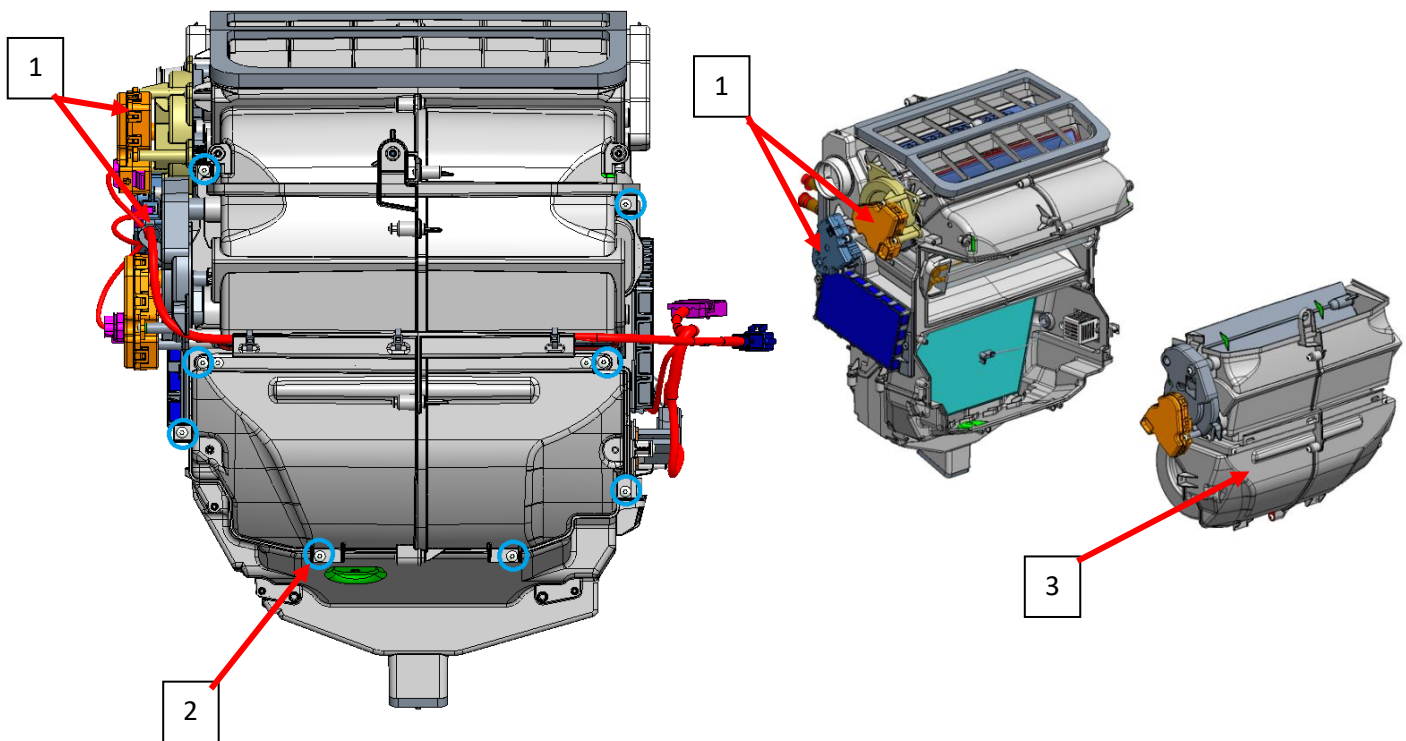

Figure 16: HVAC Unit with Separated Blower Scroll Housing
2. Remove 8 screws (figure 16, item 2 – circled in blue).
2. Secure with the 8 screws (figure 16, item 2 – circled in blue).